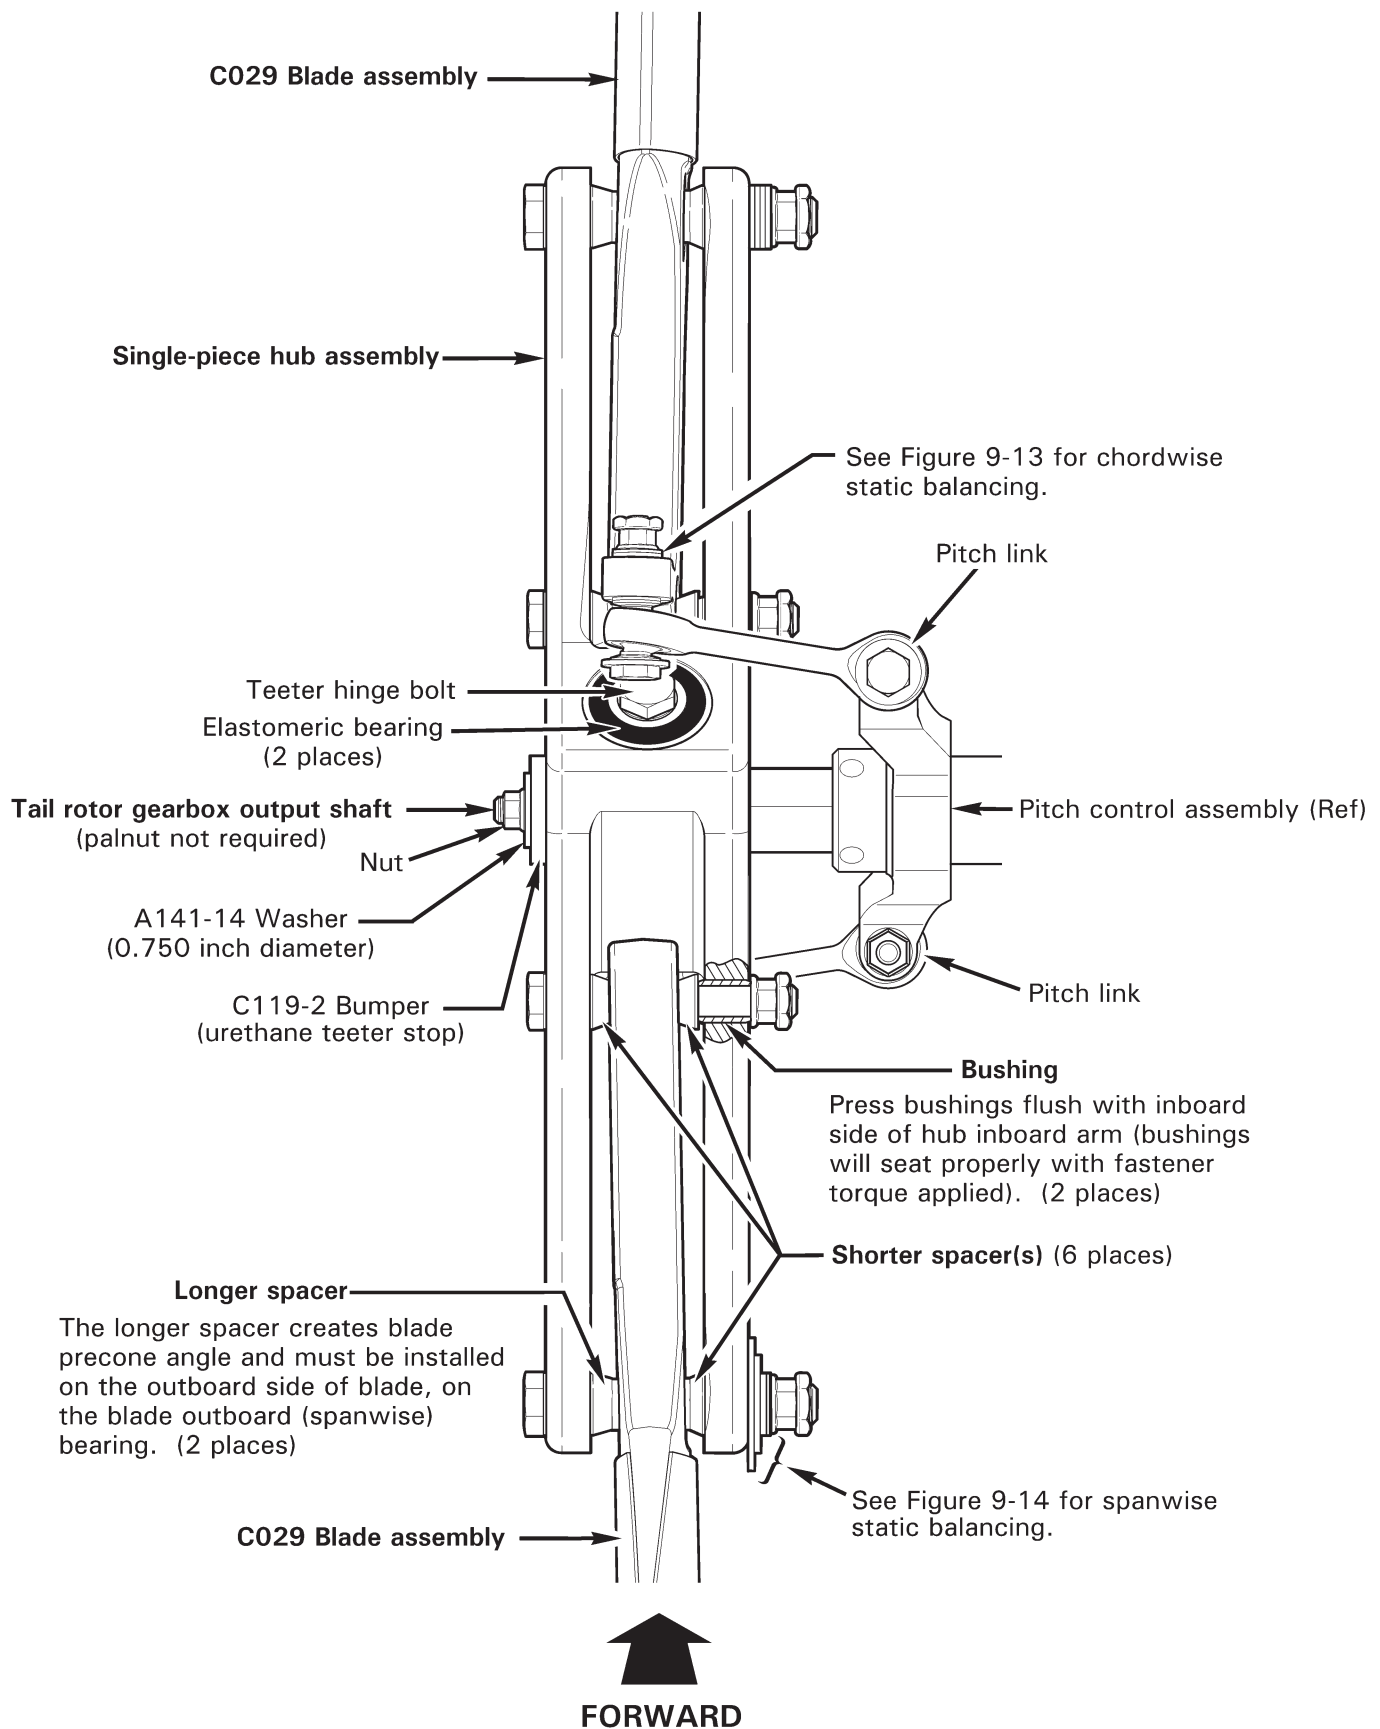
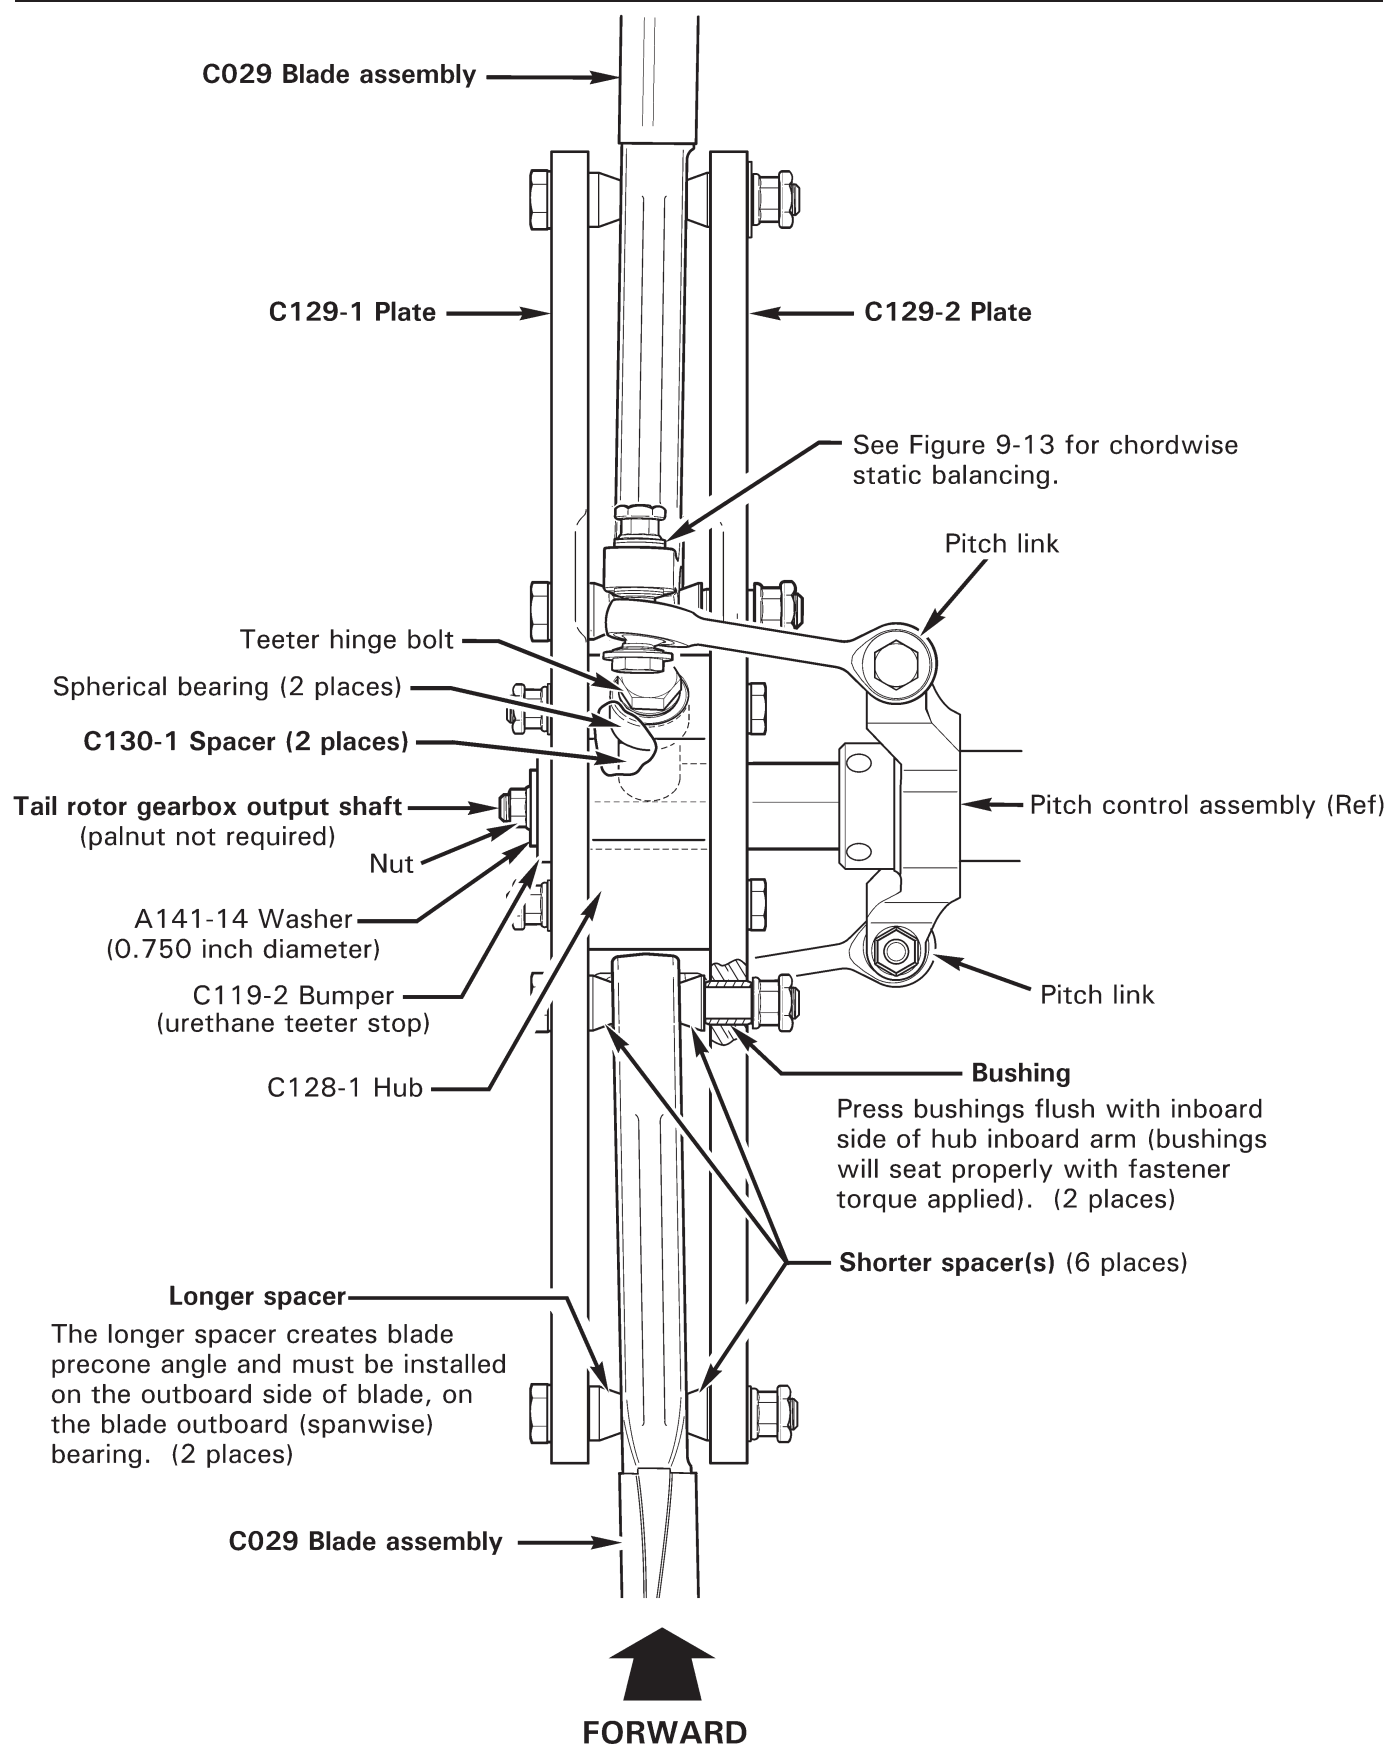

FIGURE 30-1 SINGLE-PIECE HUB TAIL ROTOR ASSEMBLY INSTALLATION
FIGURE 30-2 THREE-PIECE HUB TAIL ROTOR ASSEMBLY INSTALLATION
1. Refer to Figure 30-1 or Figure 30-2. Mark or tag each pitch link and corresponding blade for reinstallation. Remove hardware securing pitch links to tail rotor blades, noting hardware removed.
1. Refer to Figure 30-1. Position tail rotor assembly on tail rotor gearbox output shaft, matching tail rotor blades to corresponding pitch links. Verify tail rotor is installed for clockwise rotation when viewed from left side of aircraft.
2. Refer to Figure 30-2. Position C130-1 spacers inside hub and install tail rotor assembly on tail rotor gearbox output shaft, matching tail rotor blades to corresponding pitch links. Verify tail rotor is installed for clockwise rotation when viewed from left side of aircraft.
2. Refer to Figure 30-1 or Figure 30-2. Mark three-piece tail rotor hub assembly across the hub and plates for reinstallation.
2. Refer to Figure 30-1 or Figure 30-2. If removed, apply light coat of approved primer (see § 23-70) to outer surface of bushings; while primer is wet, press bushings flush with inboard side of hub inboard arm (bushings will seat properly with fastener torque applied).